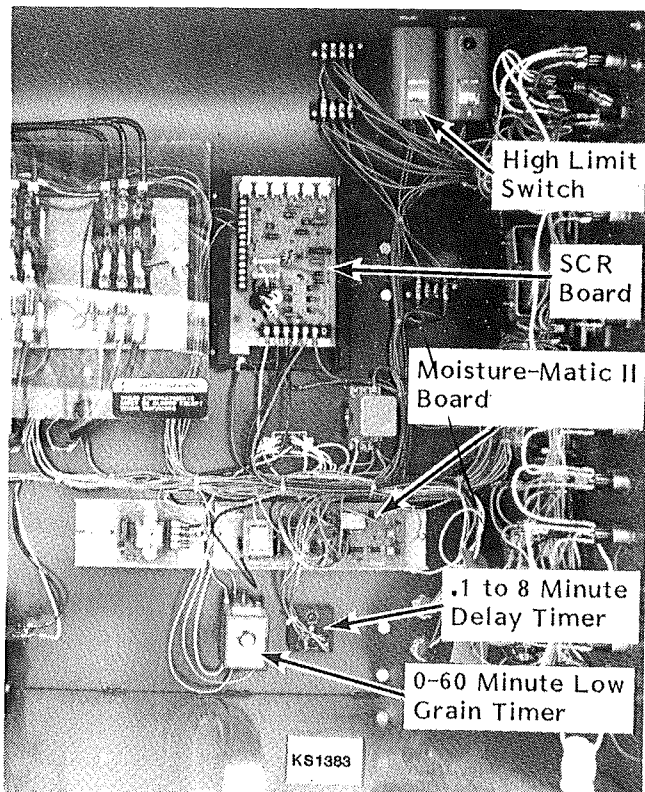

Figure 11 - Control Cabinet (Inside)
3. The Low Grain Timer (Figure 11) will shut the dryer down if there is an insufficient grain supply to fill the hopper. When the fill equipment starts, the Low Grain Timer will be activated. When the timer counts down to zero, the dryer will shut down.